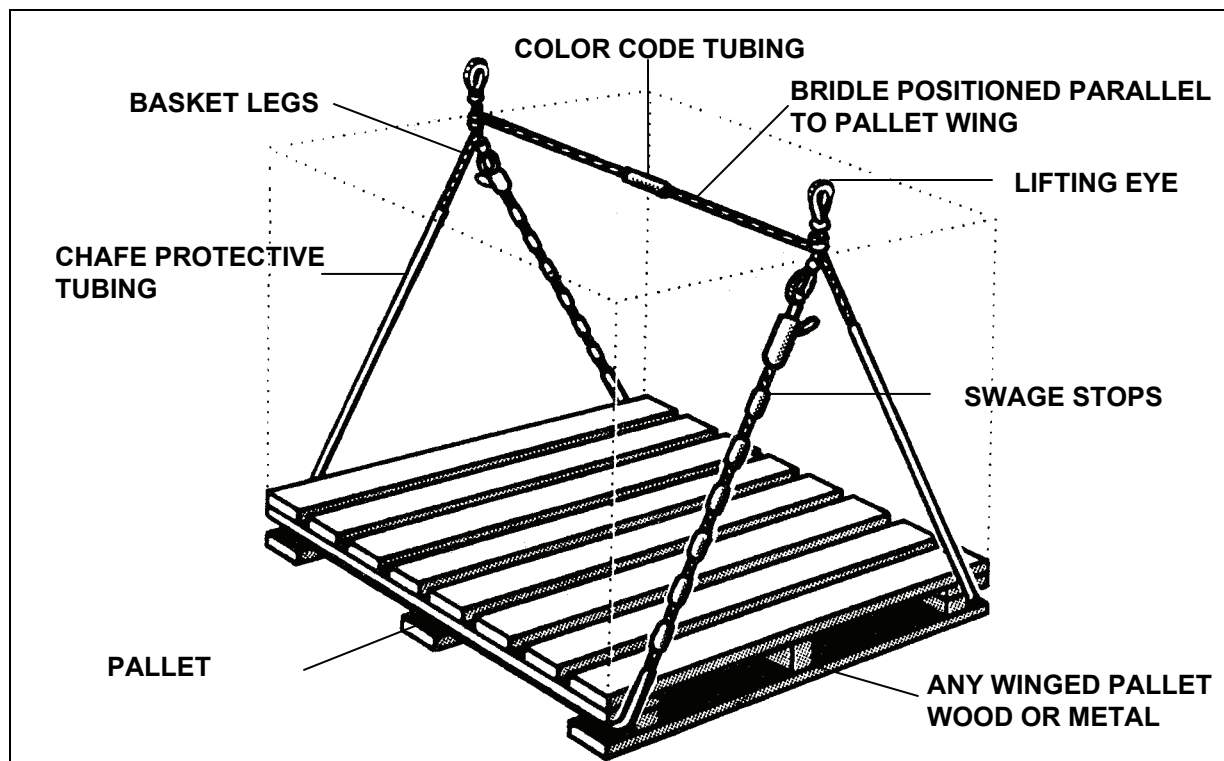

Figure 9-8. Adjustable Pallet Sling Mk85, 86, 87, and 100
- **Adjustable Pallet Slings.** Palletized ordnance may be transferred without cargo nets using the adjustable pallet sling (Figure 9-8). In order to attach the sling to the load, follow these steps: